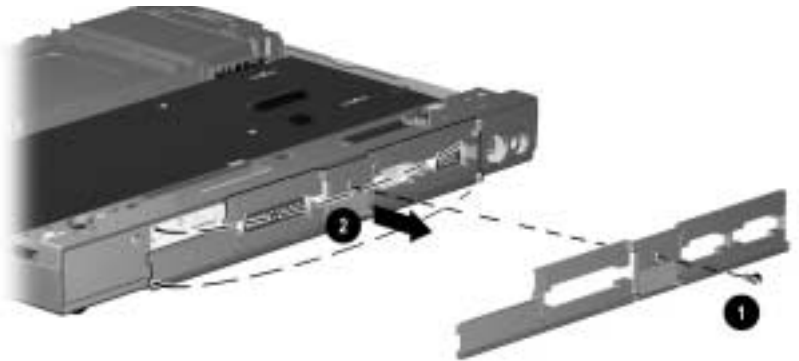

Figure 5-29. Removing the I/O Cover
3. Remove the screw securing the I/O cover to the speaker housing **1** (Figure 5-29).